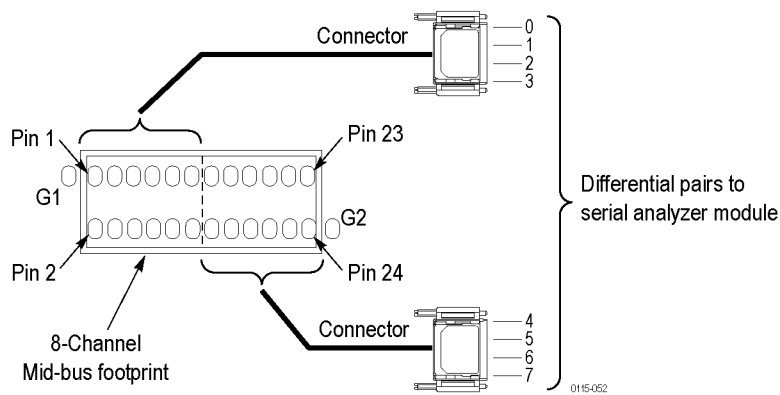
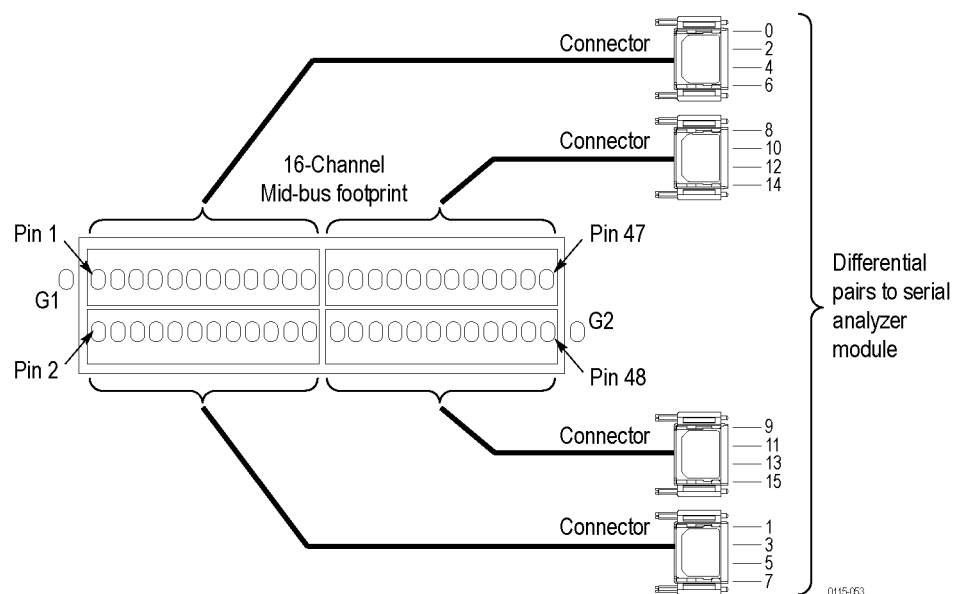

Figure 43: 8-Channel midbus footprint connection module connector
Figure 44: 16-Channel midbus footprint connection module connector
- To ensure that all lanes from one direction of the link are connected to the top two connectors on a TLA7S16 or to the top connector of a TLA7S08, refer to the connector illustrations. (See Figure 43 on page 40.) (See Figure 44 on page 41.) Ensure that all lanes going to the bottom two connectors of the TLA7S16 (or the bottom connector of the TLA7S08) are from the same direction.